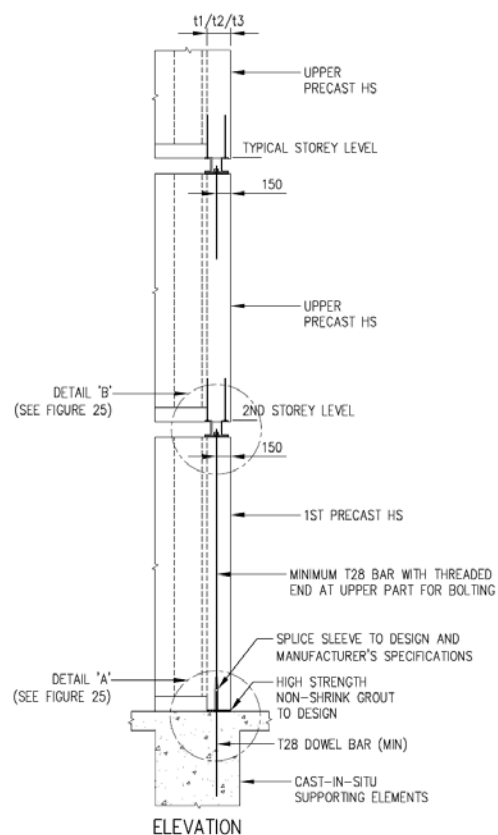

FIGURE 24: SPLICE SLEEVE CONNECTION DETAILS BETWEEN
2. THE UPPER PRECAST HOUSEHOLD SHELTERS SHALL BE JOINED BY BOLT CONNECTION (SEE FIGURE 24, DETAIL A, DETAIL B, SECTION 1-1 AND 2-2) AT THEIR 4 CORNERS OF SHELTER WALL.